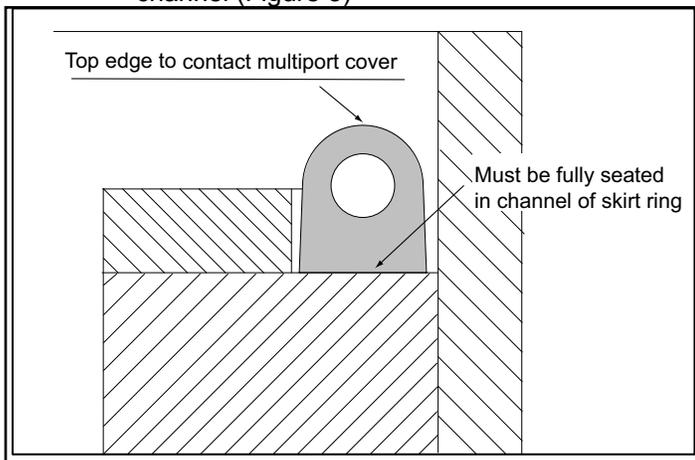

Figure 5: D-Ring Gasket Cross Section
- a. D-ring gasket is free of dirt and debris, the round edge is facing up, and it is fully seated in the skirt channel (Figure 5)